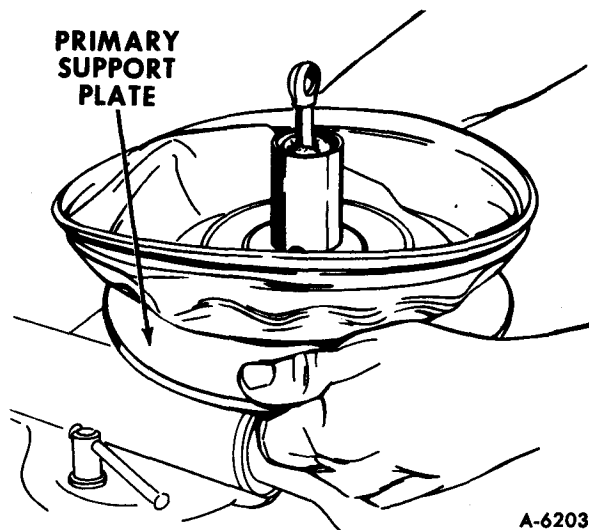

Figure 16—Locking or Unlocking Primary Support Plate from Primary Power Piston
11. Fold back primary diaphragm from the support plate. Grip the edge of the support plate and rotate in a counterclockwise direction to unlock the primary support plate from the primary power piston (figure 16).
12. Grip the edges of the primary support plate, press down, and rotate clockwise until the tabs on the primary power piston contact the stops on the support plate (figure 16).